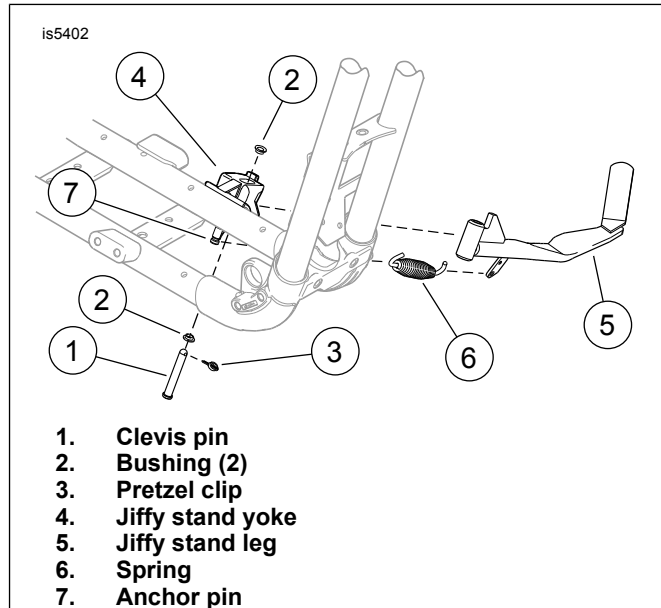

Figure 2. Jiffy Stand
2. See Figure 2. Place the jiffy stand leg in retracted position and remove pretzel clip (3).
3. While firmly holding the jiffy stand leg (5) in the fully retracted position, withdraw the clevis pin (1) until it disengages from the upper pivot hole of the jiffy stand yoke (4).
4. Detach the spring (6) from the anchor pin (7) using pliers. Unhook other end of spring from the jiffy stand leg.
6. Clean the frame mounted anchor pin and apply a small amount of wheel bearing grease to the pivot holes of the new jiffy stand leg (5) and yoke, groove of anchor pin and shaft of clevis pin (1).